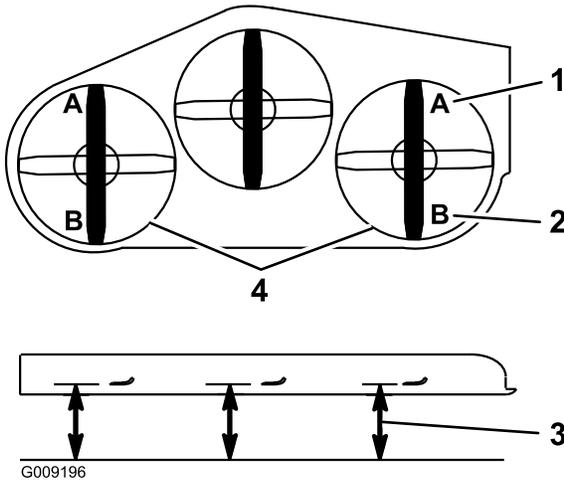

Figure 107
- On both sides of the deck, measure from the level surface to the front tip of the blade (Position A) as shown in Figure 107.
- 15. On both sides of the deck, measure from the level surface to the back tip of the blade (position B) as shown in Figure 107.